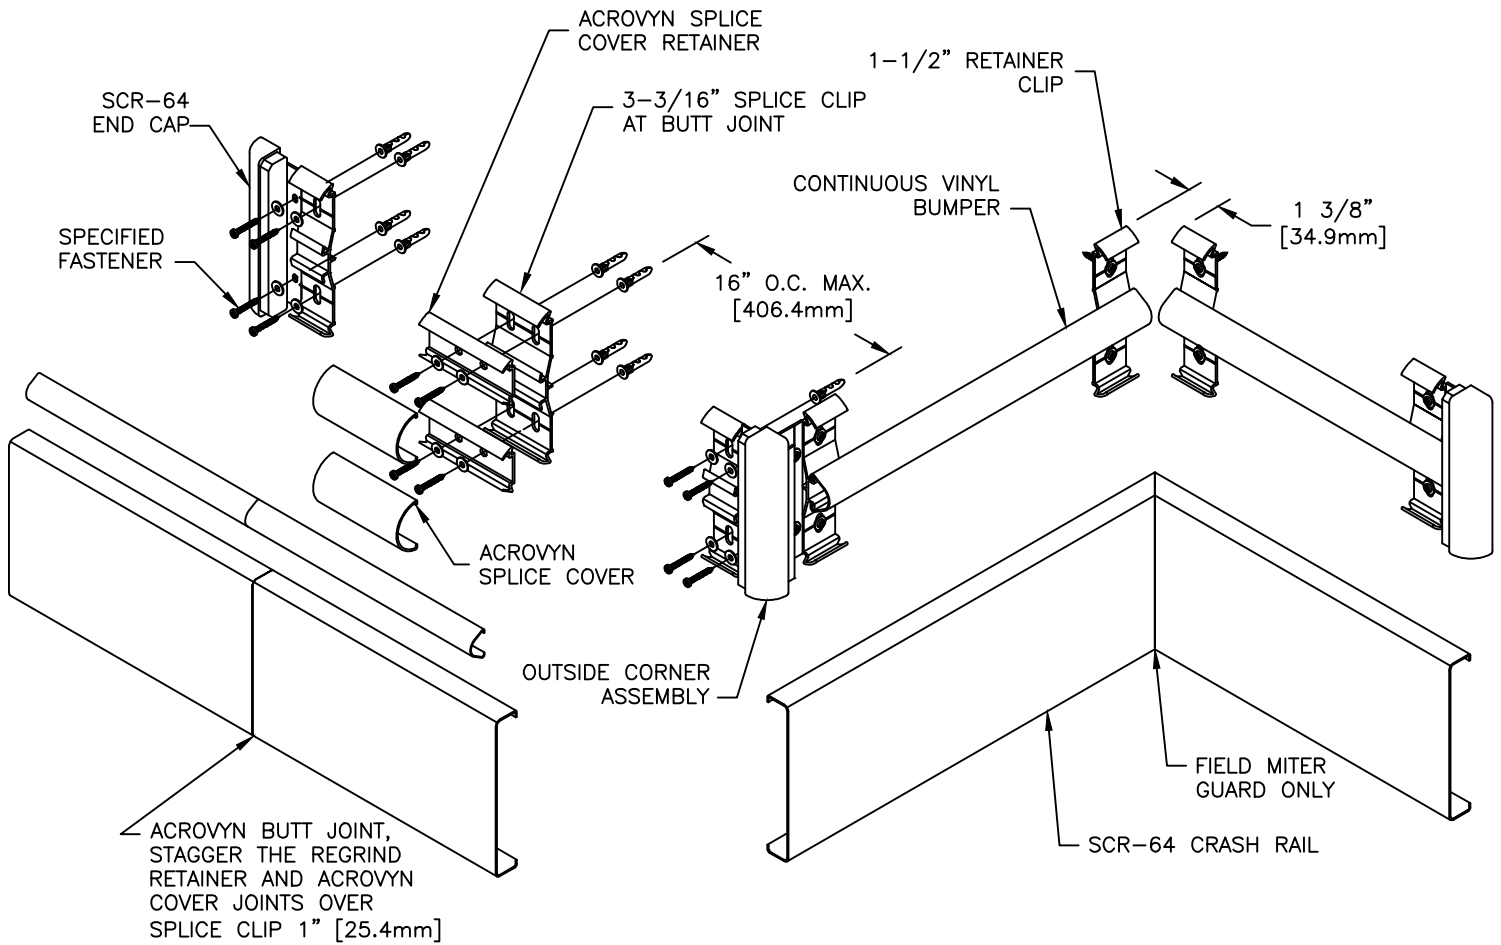

FIGURE 1.
4. FASTEN CLIPS TO WALL USING C/S SUPPLIED FASTENERS FOLLOWING MANUFACTURER'S GUIDELINES. 1-1/2" [38.1mm] CLIPS ARE TO BE INSTALLED AT 16" [406.4mm] O.C. AND 3-3/16" [81.0mm] CLIPS ARE TO BE INSTALLED AT BUTT JOINTS WITH THE ACROVYN SPLICE COVER RETAINER ATTACHED TO THE FACE. USE A LEVEL TO INSURE THAT THE CLIPS AND SPLICES ARE INSTALLED PLUMB. (SEE FIGURE 1)